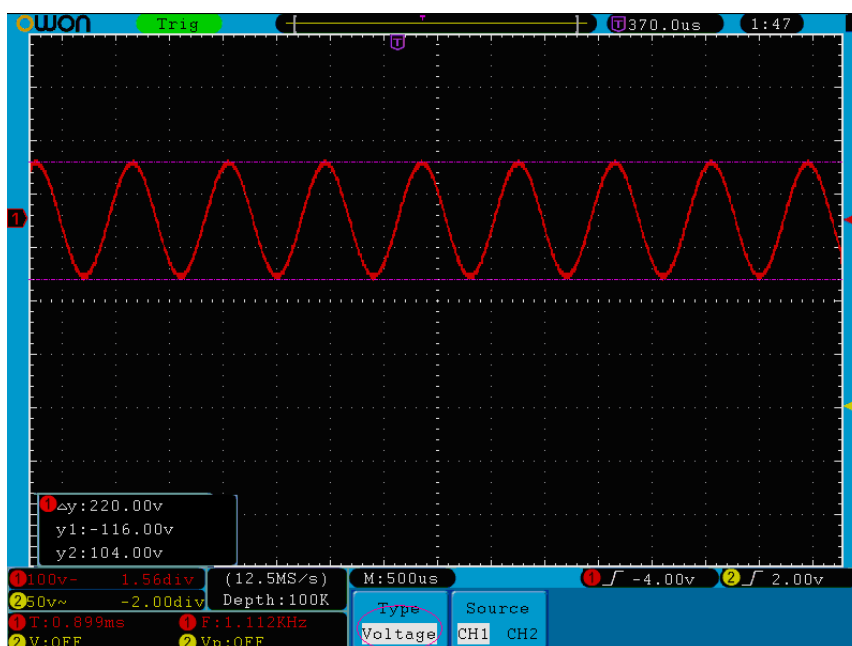

Figure 5-61 Waveform of Voltage Cursor Measurement
4. According to the measured waveform, adjust the positions of Cursor1 and Cursor2 by turning the **VERTICAL POSITION** knob of CH1 and CH2. Cursor increment window at the left bottom of waveform shows absolute value of D-value of cursor 1 and cursor 2 and the present position of the two cursors (see *Figure 5-61*).